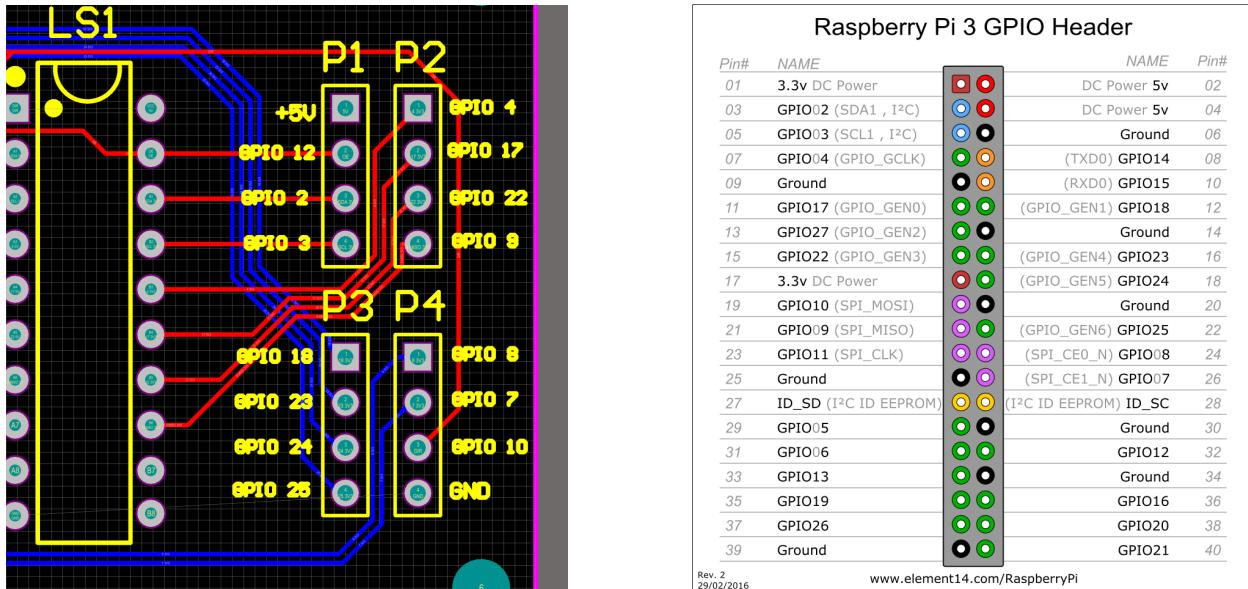

Figure 32: Raspberry pi to Logic Shifter board
The Logic Shifter PCB is not included in the Adafruit project. The following steps describe how to include the Logic Shifter PCB in the wiring and routing. Figure 32 shows the pin connections on the logic shifter, labeled with which pin they connect to on the Raspberry Pi. We suggest putting the logic shifter board in the 3D printed head, and routing the wires through the body and up through the PVC pipe "neck".
****Note**** In Figure 32, the pin labels on the board (left) correspond to the pin NAME and not the physical pin number. For example, GPIO 12 is GPIO 12 and **NOT** physical pin #12.